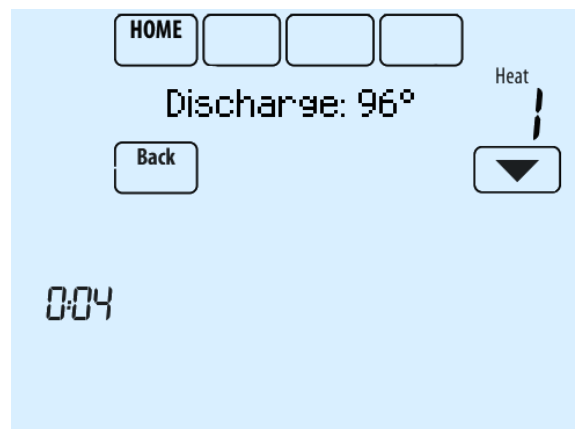

Fig. 26.
2. Run Time and Discharge temperature are displayed for heating and cooling tests (requires Discharge Air Sensor). See Fig. 26. The Discharge temperature updates every 30 seconds during the test. The Run Time counter starts over when the next stage is turned on.